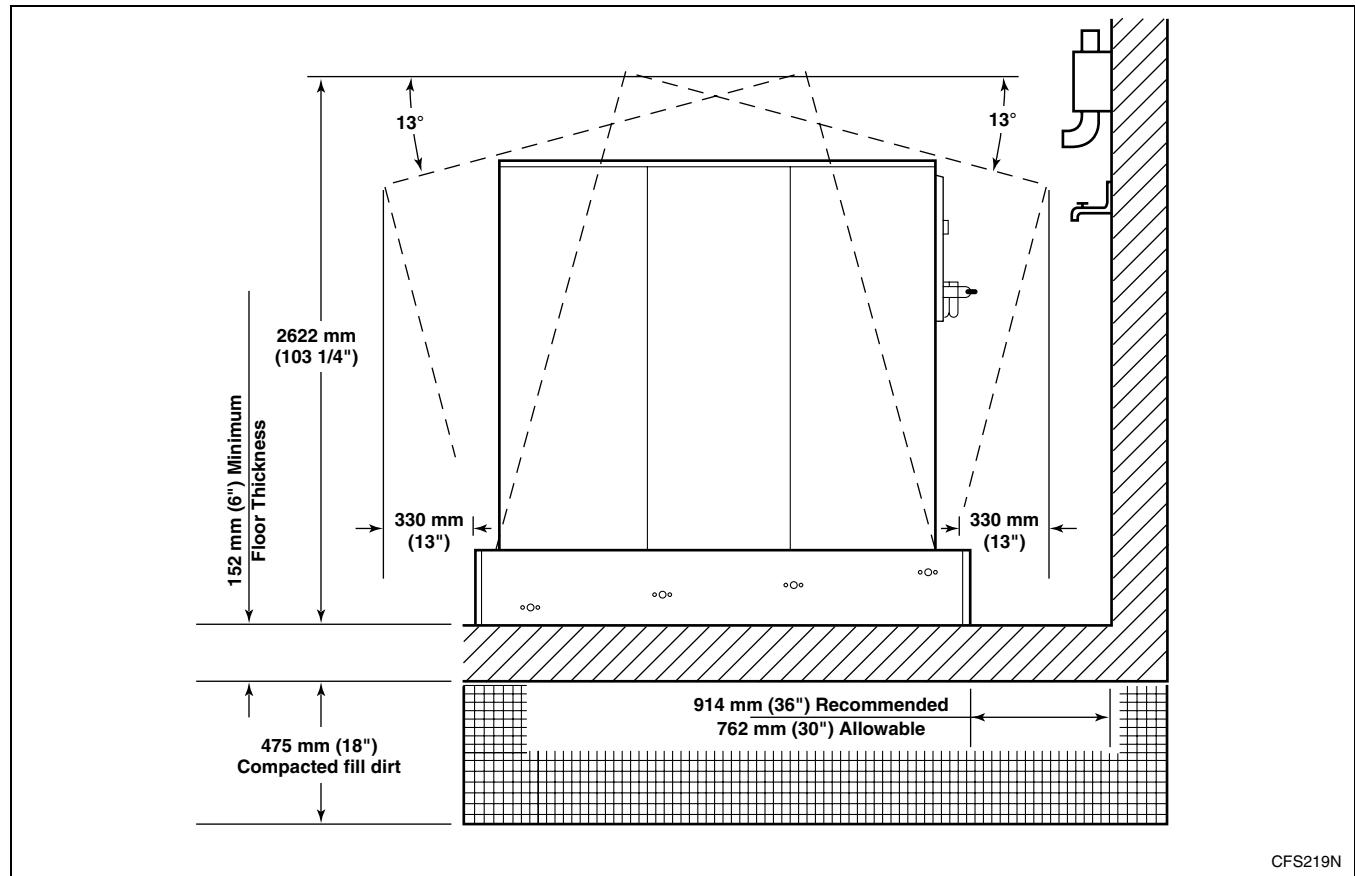

Figure 7
* Machines equipped with the tilt option require a minimum overhead clearance as well. Refer to *Figure 7* for the minimum overhead clearance for the 250 pound capacity model with tilt option.